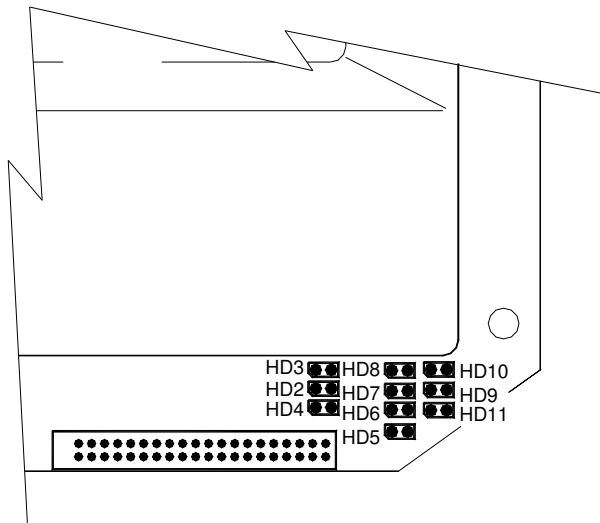

Figure 8 - Option jumper positions
3. Noting the positions, disconnect the keypad cable at the keypad. See figure 8.
Fit a jumper to the ON position (Figure 8), to enable the timer (6 minutes nominal). Fit the jumper to the OFF position to disable the timer.